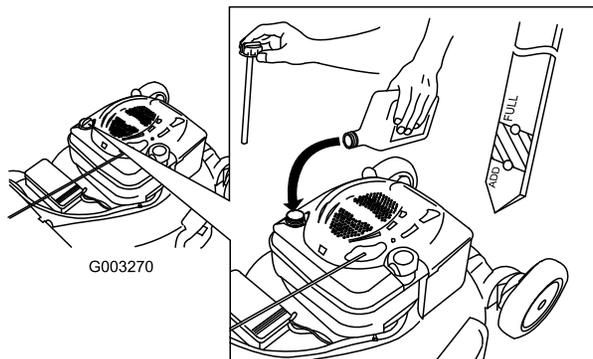

Figure 6
2. **Slowly** pour oil into the oil fill tube until the oil level reaches the Full line on the dipstick (Figure 6). **Do not overfill.** (Max. fill: 20 oz. (0.59 l), type: SAE 30 detergent oil with an API service classification of SF, SG, SH, SJ, SL, or higher.)
1. Remove the dipstick (Figure 6).